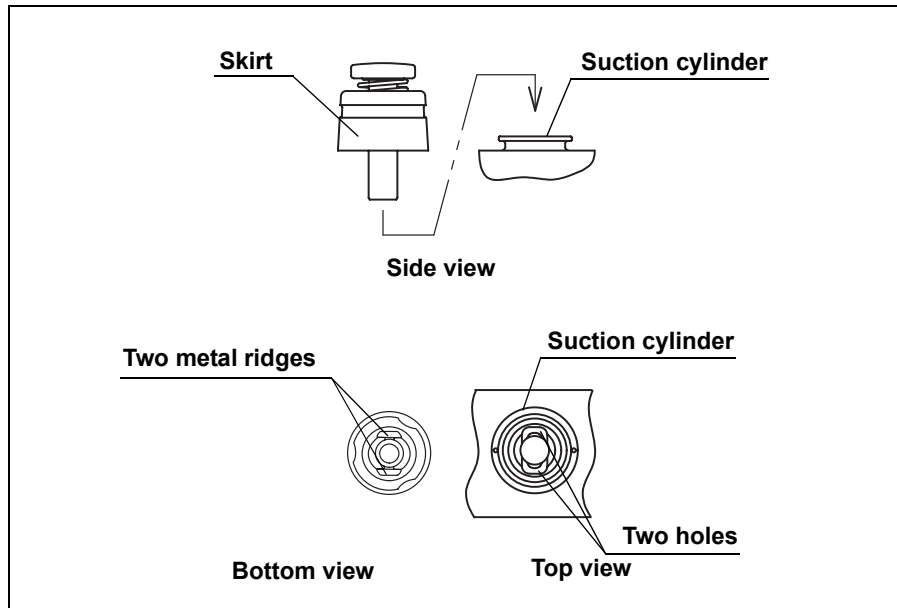

Figure 3.15
2. Attach the suction valve to the suction cylinder of the endoscope (see Figures 3.15 and 3.16). Confirm that the valve fits properly without any bulging of the skirt. Also confirm that the valve cannot be rotated.